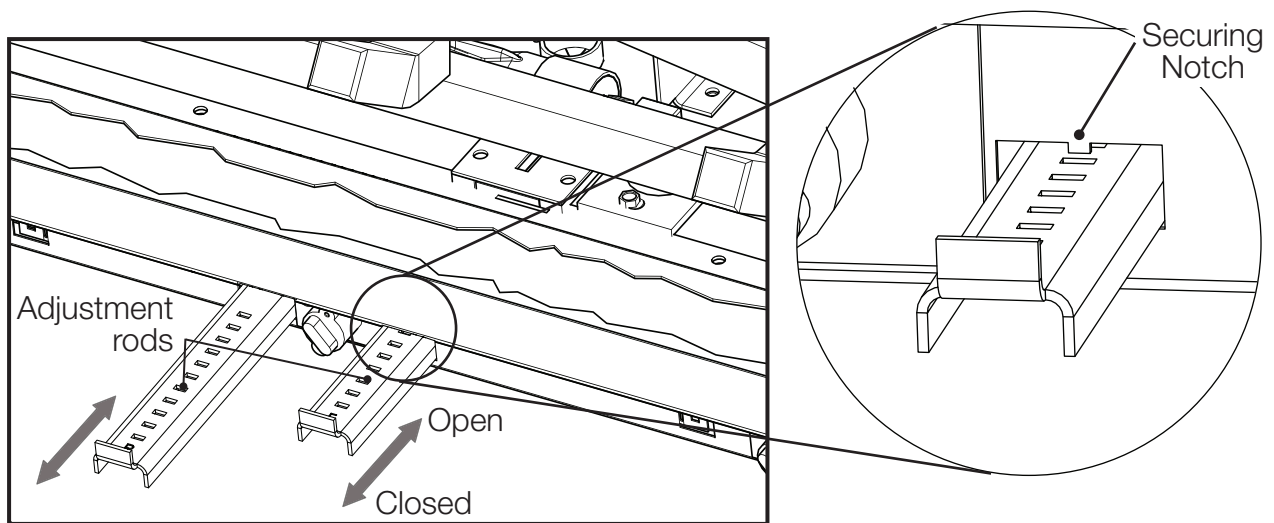

Fig. 1
Fine air adjustments should be made using the levers to achieve the desired flame (**FIG. 1**).
- A. Position the adjustment rod into the middle of the opening to disengage it from the securing notches (**Fig. 1**).
- Remove the 4 screws securing the log support assembly. Remove and set aside (**Fig. 1**).